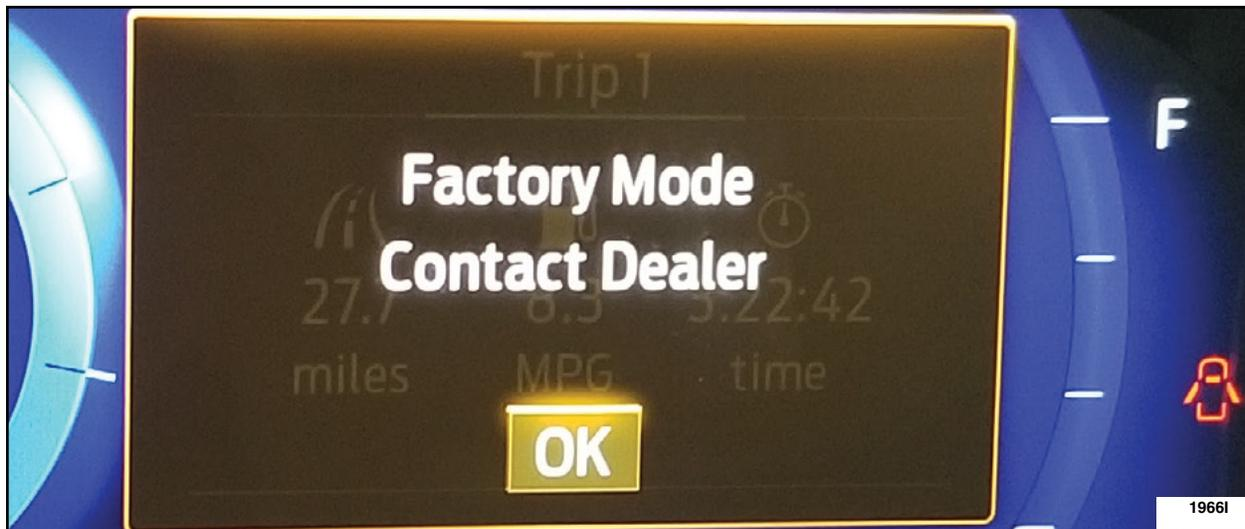

FIGURE 9
10. Cycle the ignition OFF and ON while monitoring the IPC. Does the message center display show the message "Factory Mode Contact Dealer" or "Transport Mode Contact Dealer"? See Figure 9.